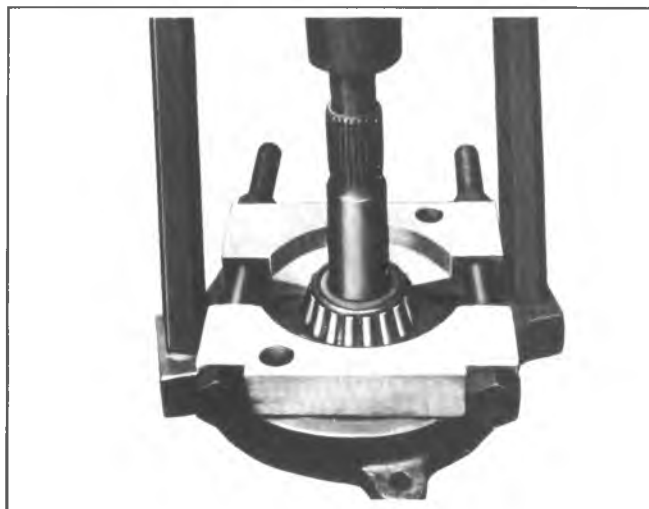

Fig. 15B--Removing Drive Pinion Rear Bearing
3. Remove rear pinion bearing from pinion shaft using press plate J-8612 for 8-1/2" ring gear and J-22912 for 8-7/8" ring gear as shown in Figure 15B.